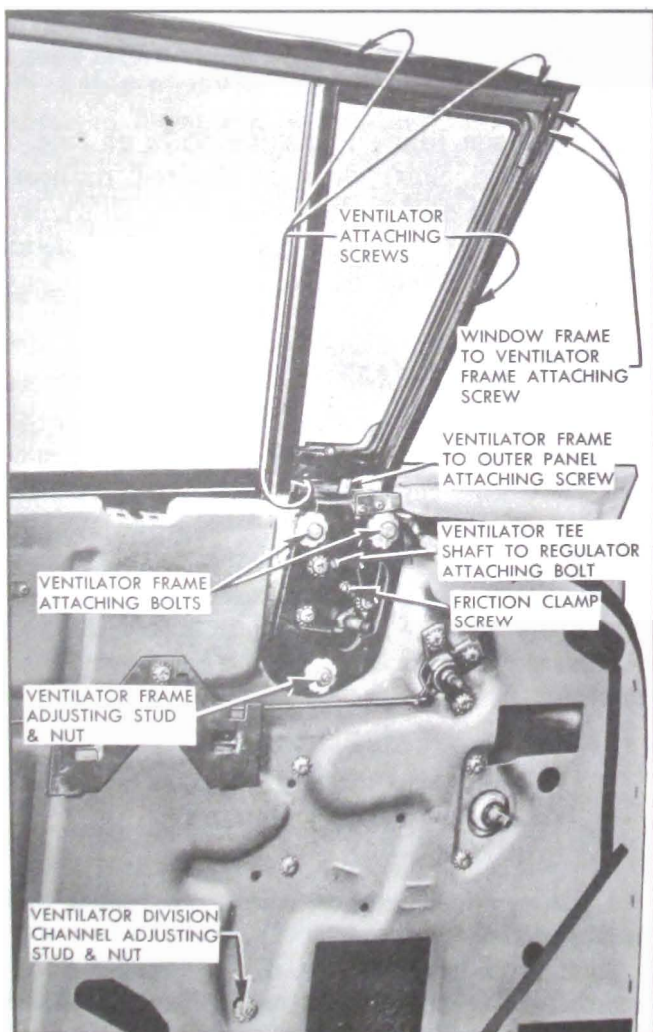

Figure 13-36—Front Door Ventilator
2. Remove ventilator tee shaft to regulator shaft attaching screw and ventilator regulator attaching screws, Figure 13-36. Remove ventilator regulator from door through front access hole.
4. Remove ventilator attaching screws at locations indicated in Figure 13-36.
4. Remove ventilator frame to outer panel attaching screw, ventilator frame adjusting stud and nut and ventilator frame attaching bolts, Figure 13-36, then remove ventilator frame from door.
2. Remove ventilator frame to outer panel attaching screw at location indicated in Figure 13-36 and 13-37.
6. Install ventilator frame to outer panel attaching screw at location indicated in Figure 13-36 and 13-37. Seal water deflector to door inner panel and install door trim and inside hardware.
1. Excessive "play" (flutter) of the ventilator at the pivot shaft when the ventilator is in the open position can be corrected by tightening the ventilator tee shaft to regulator shaft screw, Figure 13-36 and 13-37.